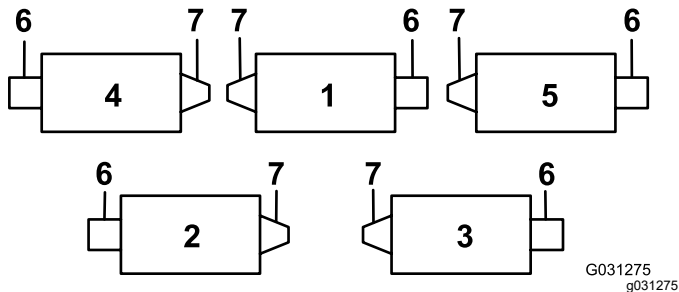

**Figure 11**
**Note:** Position the bolt head to the outer side of the tab as shown in Figure 11.
E. Mount the rod bracket to the cutting unit tabs with the carriage bolts and nuts (Figure 11). On the cutting unit, mount the left hose guide to the front of the cutting unit tabs when reinstalling the rod bracket (Figure 13).